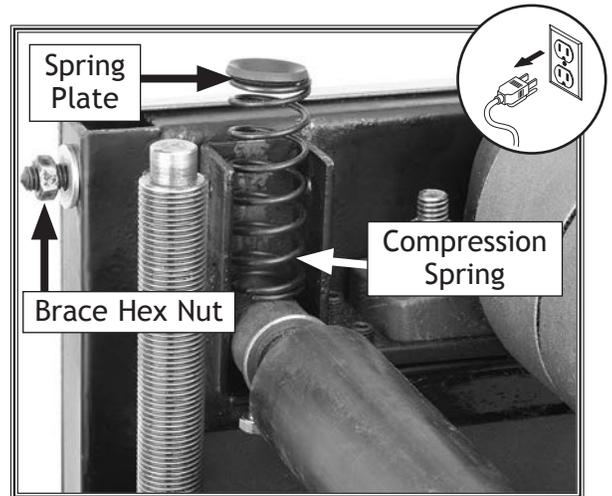

Figure 45. Front pressure roller components.
5. Remove the dust scoop (four hex bolts and four flat washers), compression springs and spring plates (see **Figure 45**) from the front pressure roller and set the roller aside.